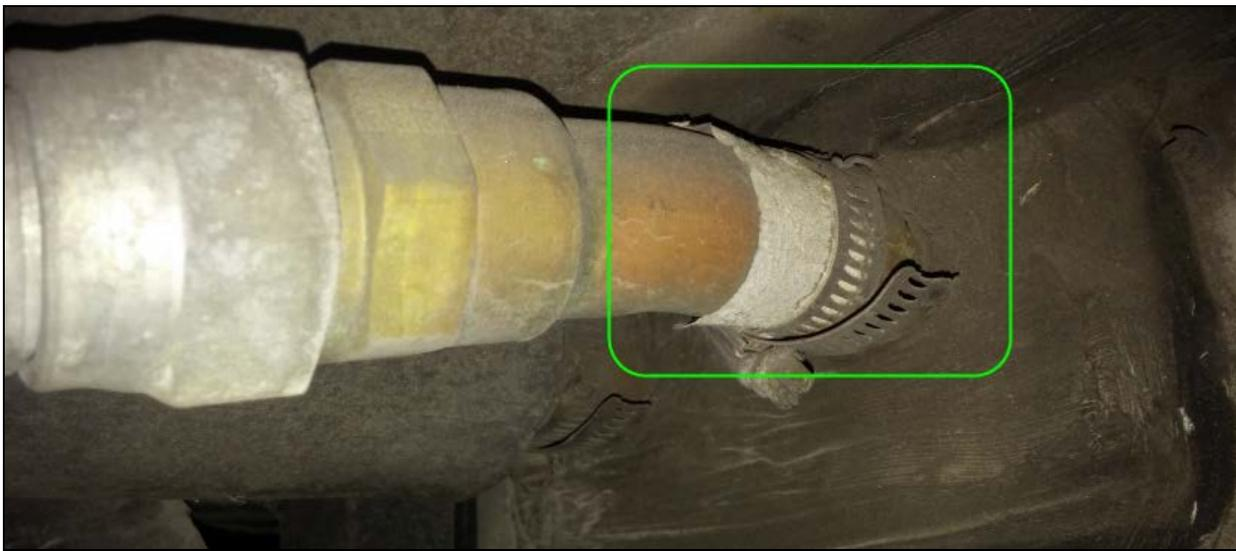

Figure 1
3. If present, remove pipe protectors, hose clamps or supports installed around the AC pipes in the engine compartment (Figure 1).